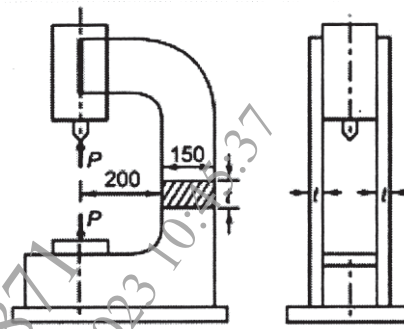

Figure 1
b) The frame of a hydraulic press consisting of two identical steel plates is shown in Figure 1, The maximum force P acting on the frame is 20KN. The plates are made of steel 45C8 with tensile yield strength of 380N/mm^2 . The FOS is 2.5. Determine Plate thickness. [10]